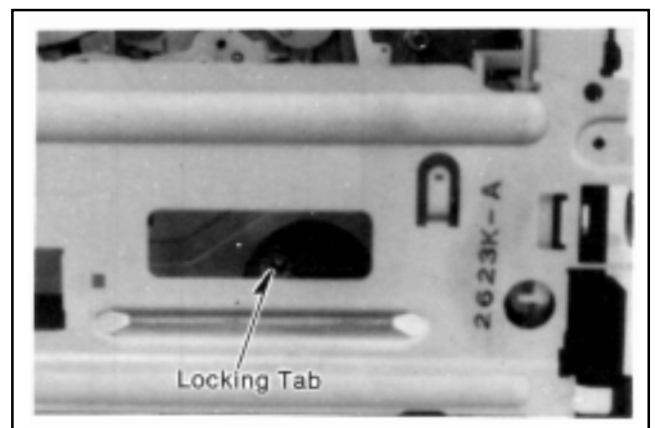

Fig. A4
- 2) Disconnect the locking tab on the right by pushing the locking tab in as shown in Fig.A4.